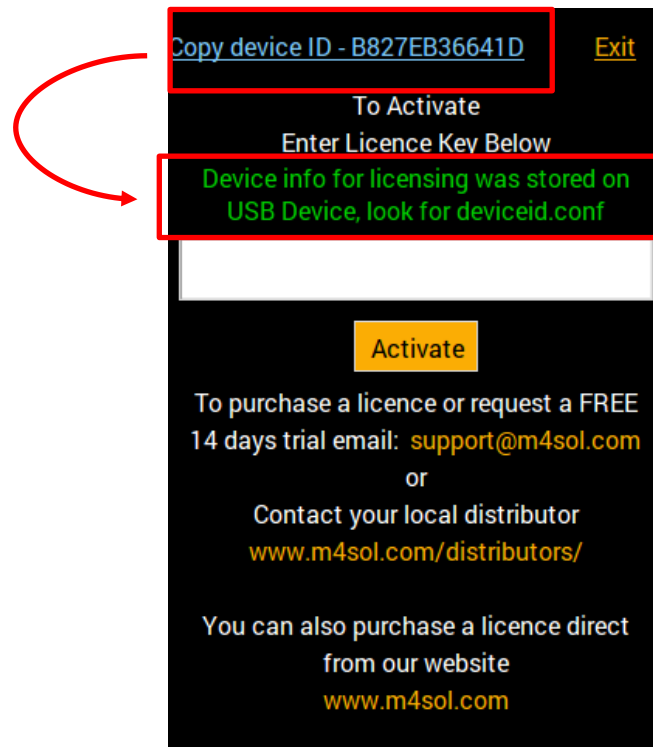

Figure 129: generating device configuration file
11. Generating the "Device.conf" file can be done only on the touch screen to the USB stick as seen in Figure 129